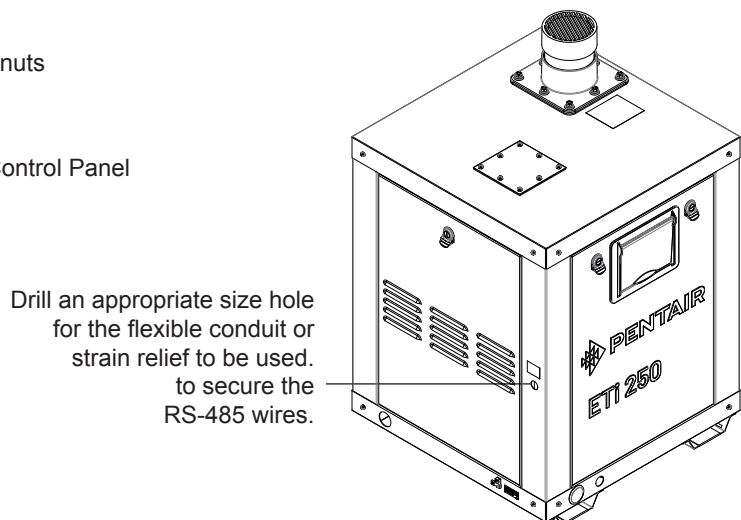

Figure 38.
2. Locate the small hole on the side panel, for the RS-485 cable. Use an appropriate size drill bit for the flexible conduit or strain relief to be used in the panel to drill a hole for the RS-485 wires. **See Figure 38.**